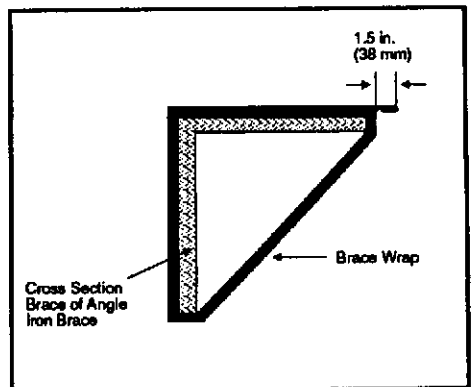

Figure 7. Angle Iron Brace with Brace Wrap.
3. Wrap the width of the brace wrap around the brace (Figure 7).